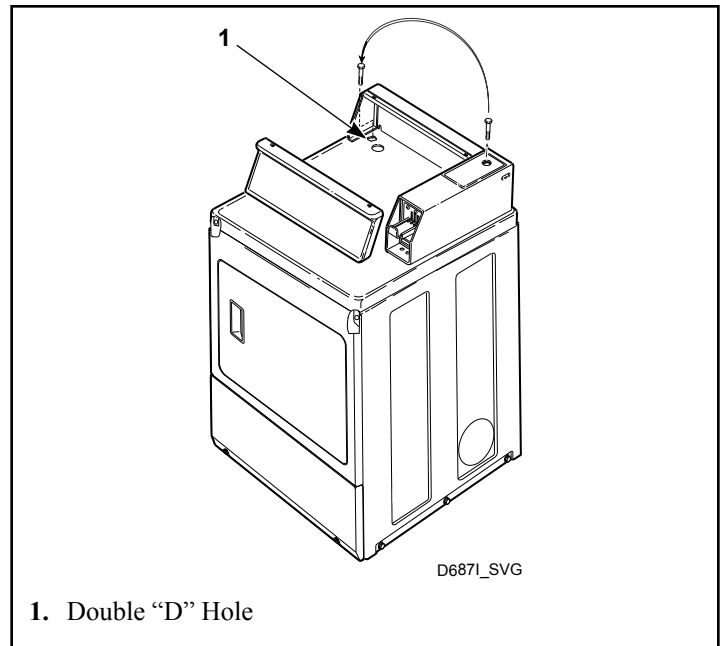

Figure 44
1. Remove the Phillips head screw from service door (refer to *Figure 44*).